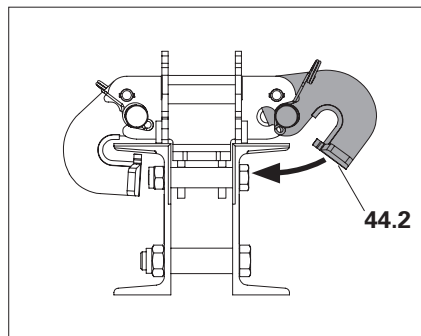

Fig. D2.05
2. Fold guiding skid (**44.2**) forwards. (Fig. D2.05 + D2.05a)